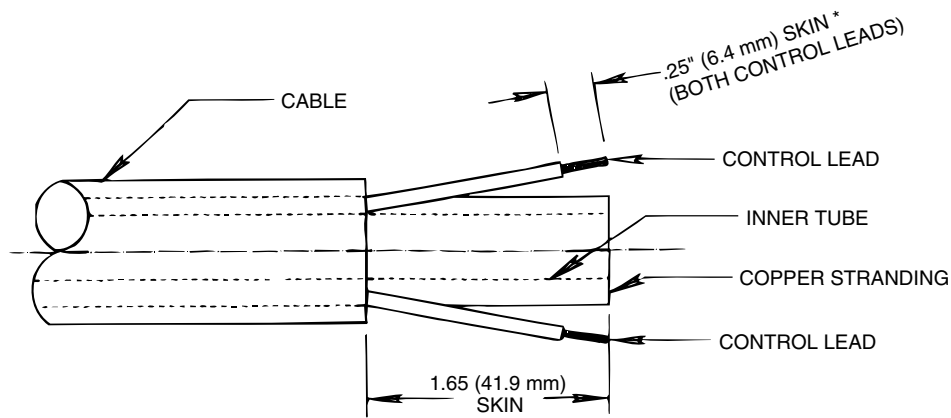

Figure 2
- f. Cut off the damaged section of cable and strip off the outer jacket as shown in Figure 2. Be careful not to cut the insulation on the control wires while stripping jacket. Strip the red and white control leads 1/4 inch (6.4 mm) from the end and crimp a new S19492-2 terminal to each lead.
- e. Cut off the damaged section of cable and strip off the outer jacket as shown in Figure 2. Be careful not to cut the insulation on the control wires while stripping jacket. Strip the red and white control leads 1/4 inch (6.4 mm) from the end and crimp a new S19492-1 terminal to each lead.